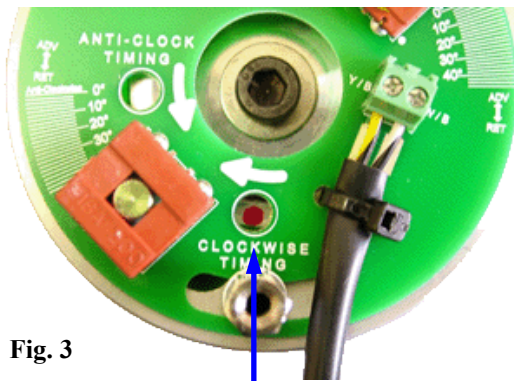

Fig. 3
21. Hold the ignition trigger assembly in the contact-breaker housing, positioned midway on its adjustment slots (the slots will normally be positioned at approximately 6 and 12 o'clock). Note that the trigger assembly can be fitted in a different position to that shown in the pictures, provided that the magnetic rotor is fitted as follows. Turn the magnetic rotor by hand until the red indicator dot aligns under the appropriate static timing hole in the trigger. This must be done without turning the engine. The appropriate timing hole is determined by the direction of rotation of the camshaft. The timing holes are marked on the trigger “Clockwise Timing” & “Anti-Clock Timing”. See figs. 3 & 4 (page 9). To determine the correct timing hole for your machine, see Table 1 (page 8). If your machine is not listed, then you will need to observe the direction of rotation whilst an assistant rotates the engine in the normal direction.